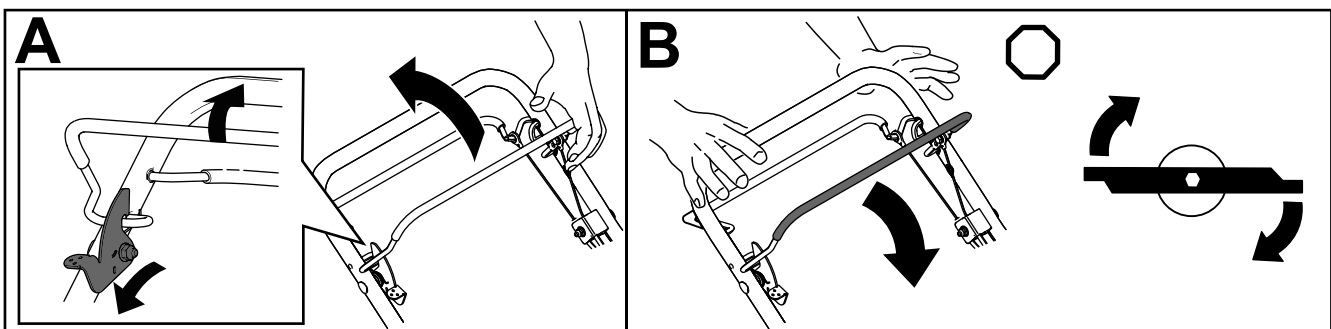

Figure 17
1. Push and hold the blade-control lock lever forward to release the blade-control bail (A of Figure 17).
2. Pull the blade-control bail to the handle and release the blade-control-lock lever; the blade should engage (A of Figure 17).
3. Release the blade-control bail to disengage the blade (B of Figure 17). The blade-control-lock lever resets to lock the blade-control bail.